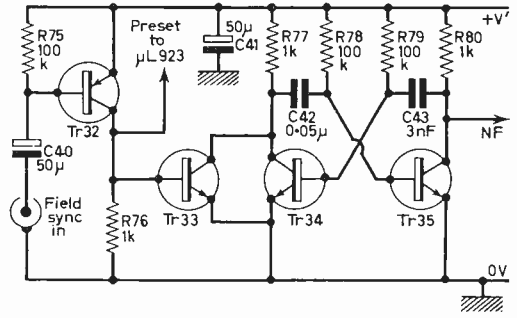
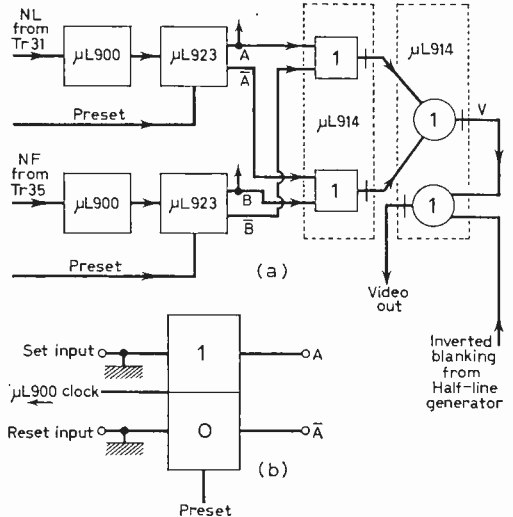

Fig. 16: Multiple field (horizontal bar) generator.
Fig. 17: Practical logic circuit (a); µL923 connections (b).
Thus the output from the astable multivibrator (Tr30 and Tr31) is always the same. Zener diode D13 keeps the supply voltage constant so that changes in the timing due to voltage variations are minimised. It will be seen that the time-constants of the off and on periods are not equal. This is because variations in component values as time passes may change the ratio if it was set to be equal and the pattern seen on the screen would not show squares but oblongs. The resulting pulse output (NL) is shaped (see Fig. 17) by a µL900 integrated circuit and then divided by two in a bistable multivibrator which also uses an integrated circuit, type µL923, a JK flip-flop. This bistable multivibrator gives a one cycle output with equal mark-space ratio for a two cycle input of any mark-space ratio. The field circuits are identical to the line circuits and are shown in Fig. 16.
The interconnections of the logic system are shown in Fig. 17. The incoming pulse streams are shaped in the µL900 inverters, the two outputs of the flip-flops (µL923), the two outputs of the µL923 i.c.s being the two phases of signal (A or A, B or B as discussed above). These are gated in